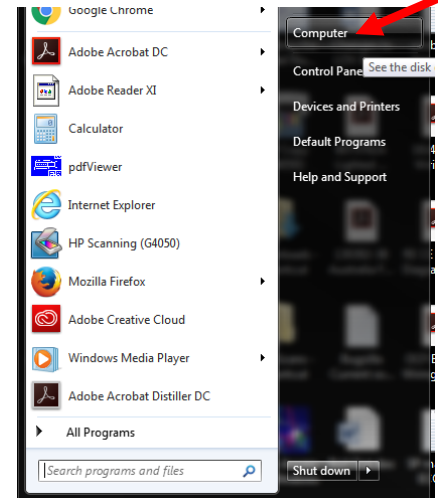

Figure 5
6. Click on Computer (see Figure 5).